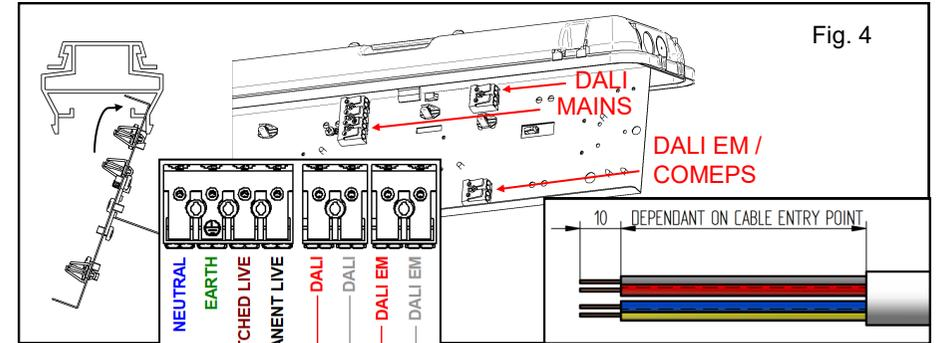

Fig. 4
8. Lift the gear tray back into position and hook onto the plastic retention clips within the housing. (Fig.4)
9. Make all electrical connections to the terminal blocks (Fig.4) and connect the emergency batteries if applicable.